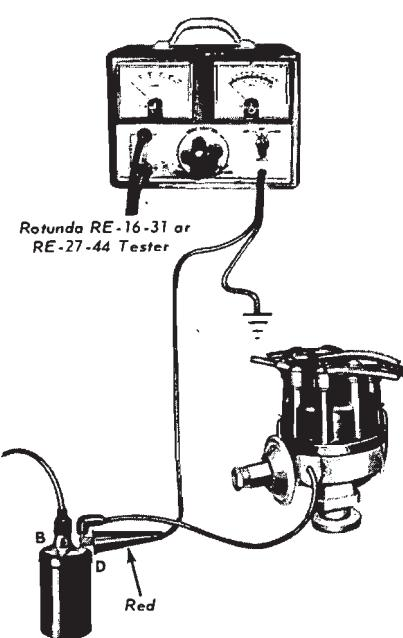

FIG. 6—Coil to Ground Test
1. Connect the voltmeter leads as shown in Fig. 6.